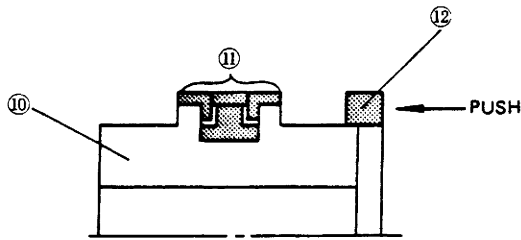

Fig. 8-8
- (5) Install seal ring assembly (11) and then keep it in position by putting the pipe corresponding to the inside diameter of each cylinder over the seal ring assembly.
- (6) Install piston ring (12) on piston (10). Install piston ring (12) as shown in Fig. 8-8.